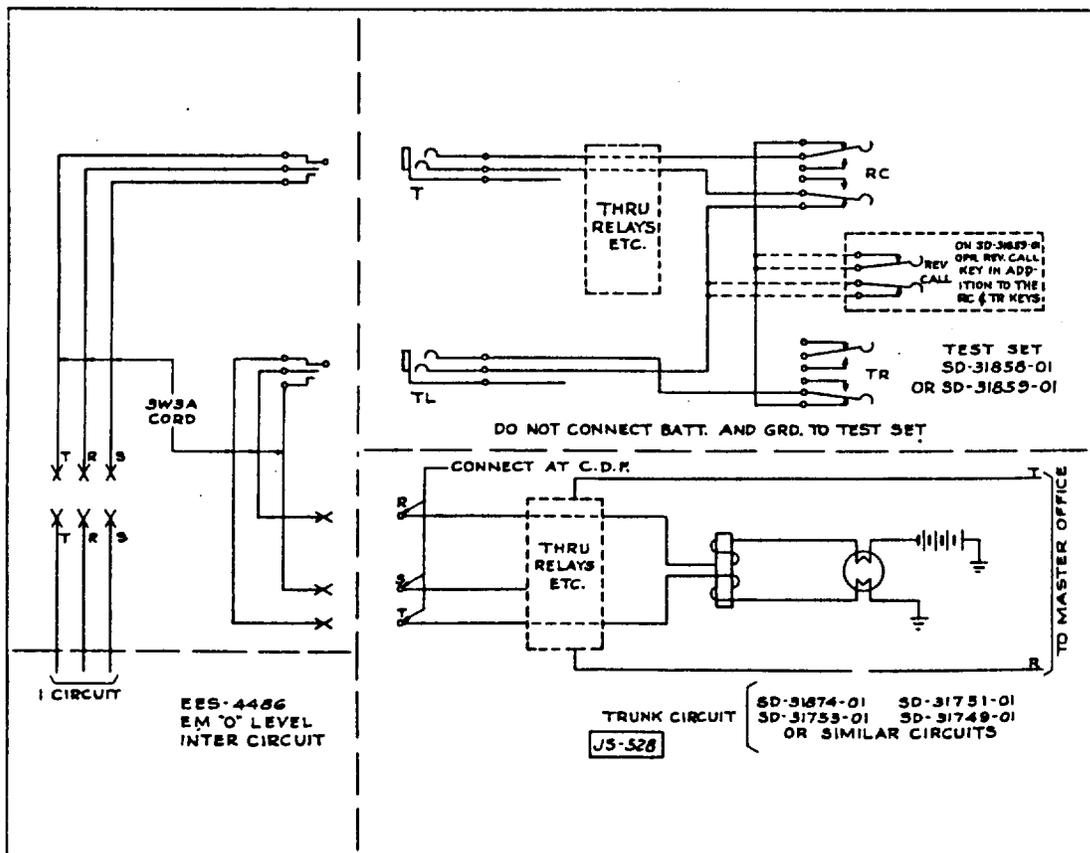

Fig. 3
4.06 355 Offices with Test Set SD-31858-01 or SD-31859-01 and Trunk Circuit SD-31874-01, SD-31753-01, SD-31751-01, or SD-31749-01 (Fig. 3).